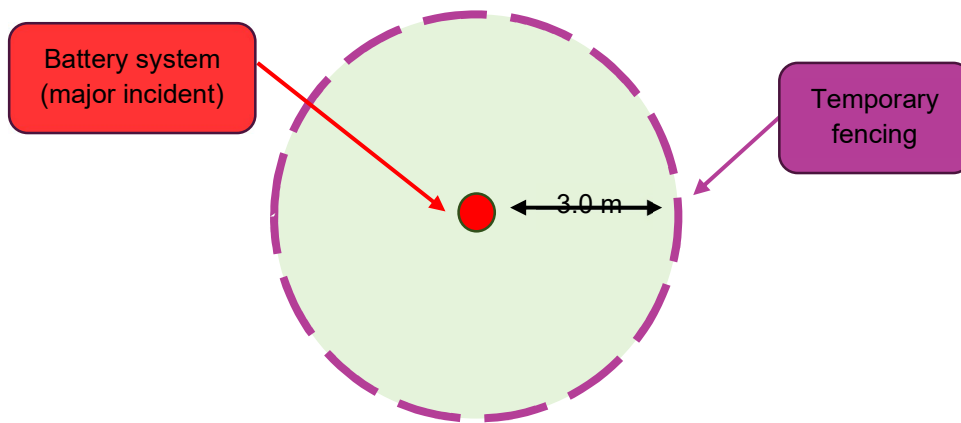

Figure 5: Temporary fencing requirements for a major battery incident.
- Unscrew 2XM6 nuts on front bottom roof side as per figure 5 above